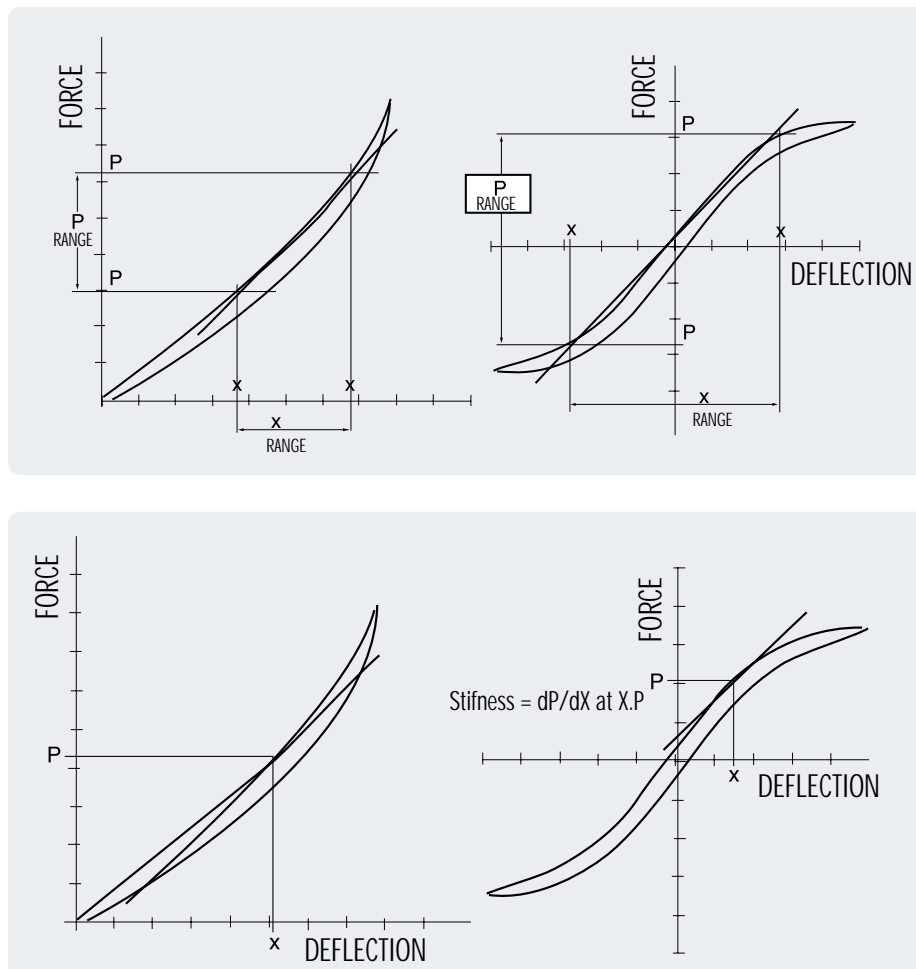

FIG.7.  $dP/dX$  at  $XP$  average gradient over  $P$  (or  $X$ ) range (usually derived by least squares method of curve fitting).
The stiffness of a spring is a measure of applied force (P) against a resulting Deflection (X). Measurements taken at a continuous feed rate (usually in the order of 1mm/sec velocity) provide static (or pseudo static) characteristic. The curves in fig. 7 show alternative methods of determining stiffness.